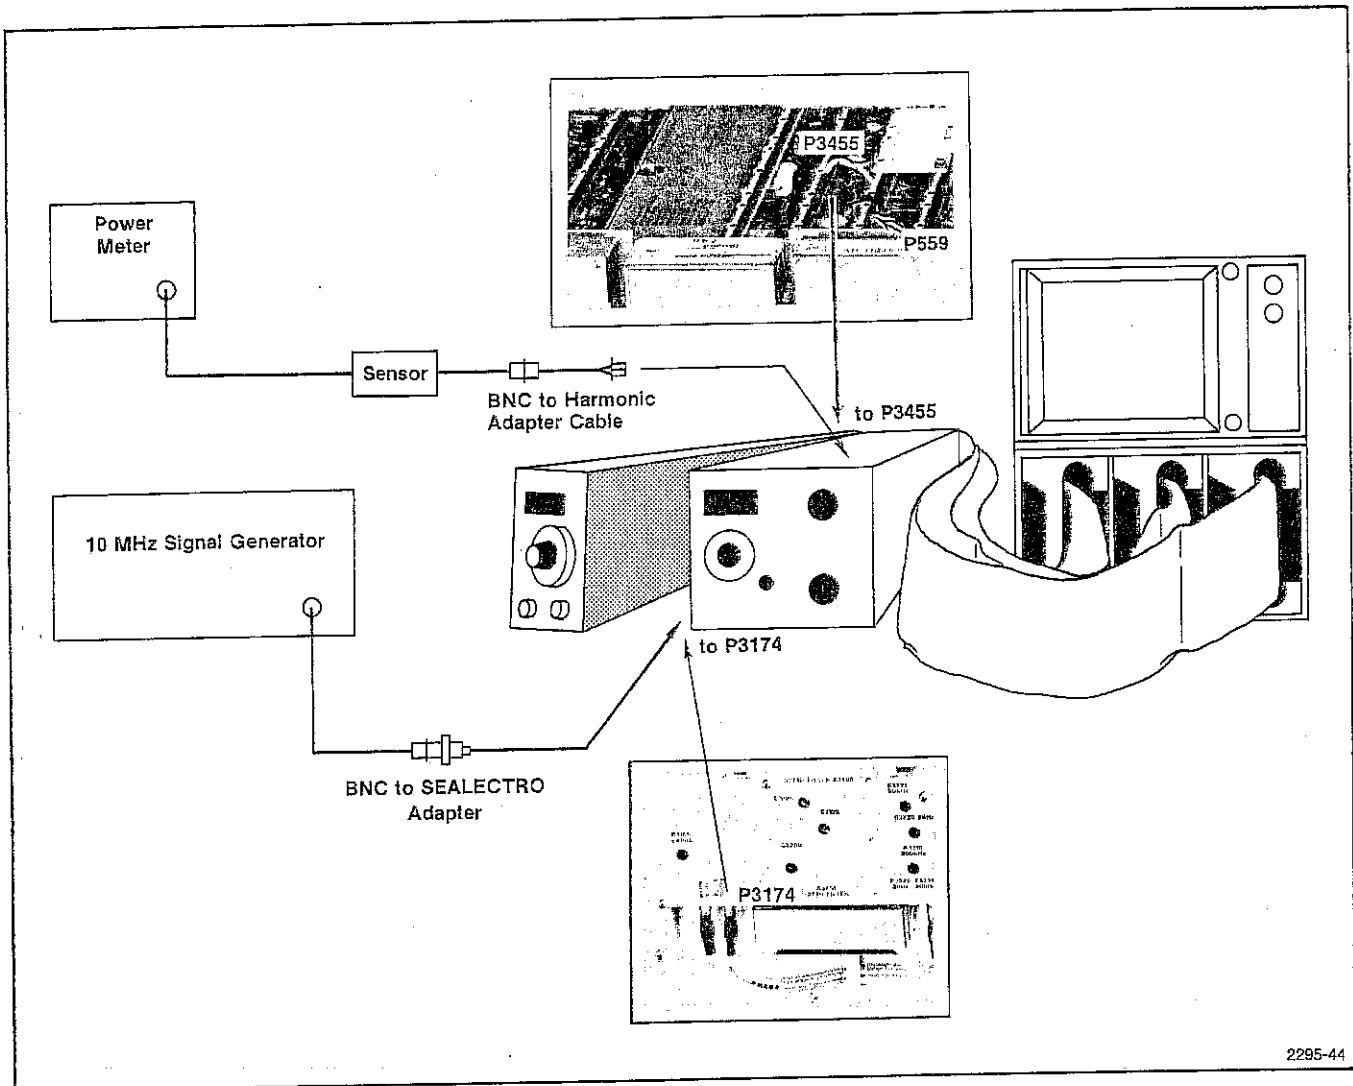

Fig. 4-36. Test Setup for Calibrating VR Circuits.
a. Test equipment setup is as shown in Fig. 4-36.
c. Disconnect P3455 from the output of the VR Noise Filter (see Fig. 4-36) and connect a power meter (i.e., HP 435A/8489A) to connector J3455. (Use a bnc-to-harmonic adapter such as that described for Adjusting Log Amplifier
module.) Disconnect P3174 (cable is input to 300 Hz Filter, see Fig. 4-36 or 4-37) on the VR module. Apply a 10 MHz, -10 dBm signal, from the signal generator, through a coaxial cable and bnc-to-male Sealectro adapter to the cable plug, P3174.